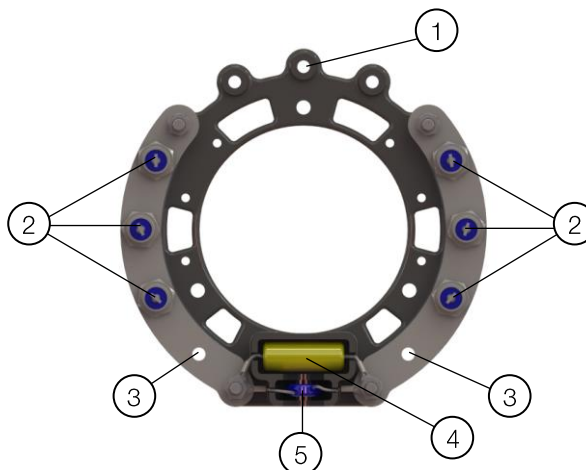

Figure 12.7: Complete diodes wheel
5. Replace the component parts which are damaged: diodes, varistor and capacitor, identified in Figure 12.7.
Key of Figure 12.7: